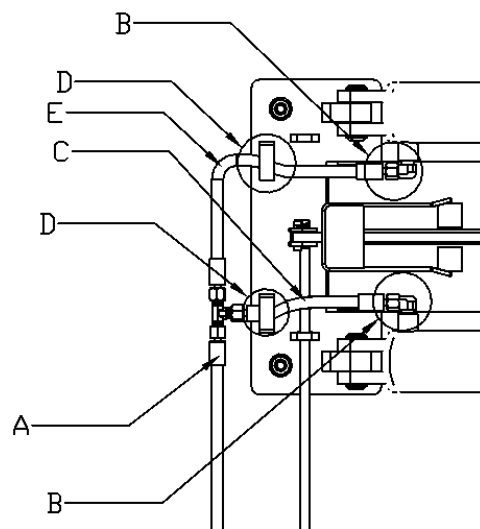

Fig. 6
- B. Connect the long hydraulic hose to the branch on the JIC tee fitting (refer to Fig. 6 A).
- C. Connect the short hydraulic hoses to the elbows on the cylinders (refer to Fig. 6 B). These connections should be hand-tight only. Feed the free ends of the hoses through the hose guides (refer to Fig. 6 C&D).
- D. Connect the short hoses to the runs on the JIC tee fitting (refer to Fig. 6 E).